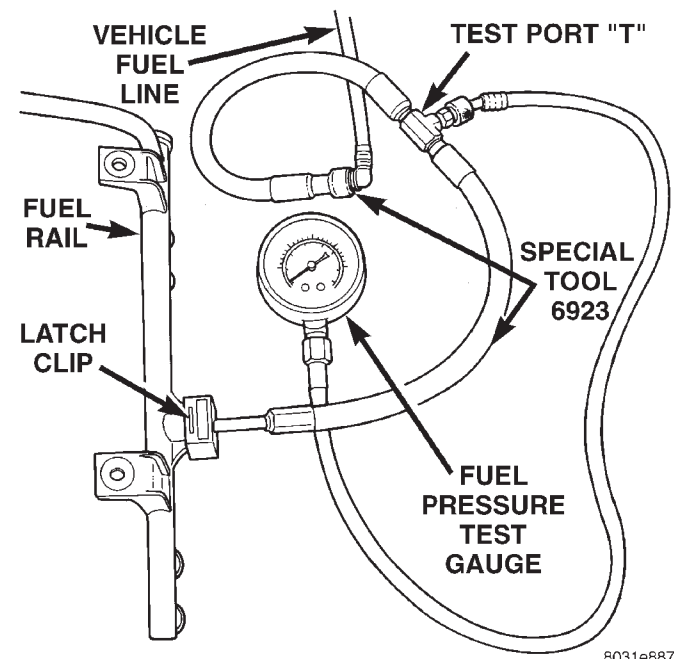

Fig. 9 Installing Adapter Tool and Pressure Gauge
(1) Release fuel pressure. Refer to the Fuel System Pressure Release Procedure—Without Pressure Test Port.
(2) Disconnect latch clip and fuel line at fuel rail. Refer to Quick-Connect Fittings for procedures. This can be found in this section of the group.
(3) Connect adapter tool number 6923 into the fuel rail (Fig. 9). **Be sure adapter tool is fully seated into fuel rail.**
(4) Install latch clip to fuel rail. If latch clip can not be fully seated into fuel rail, check for adapter tool not fully seated to fuel rail.
(5) Connect vehicle fuel line into adapter tool 6923 (Fig. 9). Be sure fuel line is fully seated into adapter tool 6923.
(6) Remove protective cap at test port "T" on adapter tool number 6923.
(7) Connect the 0–414 kPa (0–60 psi) fuel pressure gauge (from gauge set 5069) to the test port "T" (Fig. 9).
(8) Start and warm the engine and note pressure gauge reading. Fuel pressure should be 339 kPa \pm 34 kPa (49.2 psi \pm 5 psi) at idle.
(9) If engine runs but pressure is below 44.2 psi, check for a kinked fuel supply line somewhere between fuel rail and fuel pump module. If line is not kinked, replace fuel pump module assembly. Refer to Fuel Pump Module Removal/Installation.
(10) If operating pressure is above 54.2 psi, electric fuel pump is OK, but fuel pressure regulator is defective. Replace fuel filter/fuel pressure regulator. Refer to Fuel Filter/Fuel Pressure Regulator Removal/Installation.
(11) After performing pressure test, install fuel line into fuel rail. Install latch clip into fuel rail. Refer to Quick-Connect Fittings for procedures. This can be found in this section of the group.